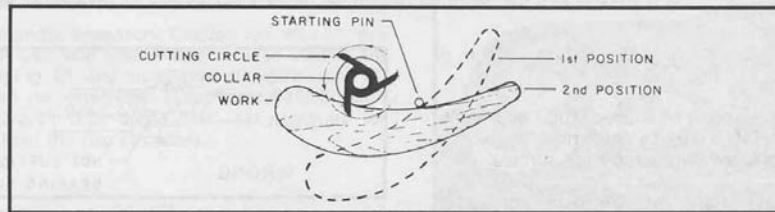

Fig. 33
2. The work should be placed in the first position using the guide pin as a support, as shown in Fig. 33. Then swing the work into the cutter as shown in the second position. The work will now be supported by the collar and starting pin as shown in Fig. 33.